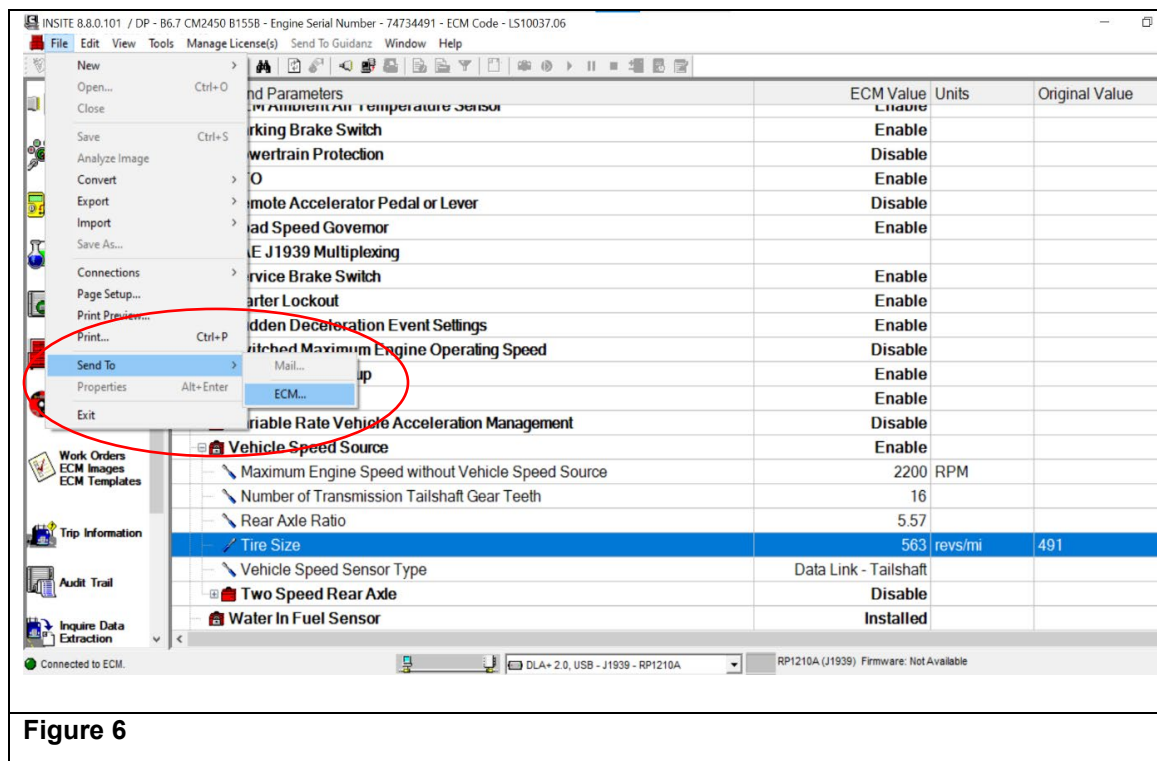

Figure 6
10. Navigate to “File”, select “Send To”, and select “ECM”. (See Figure 6.)